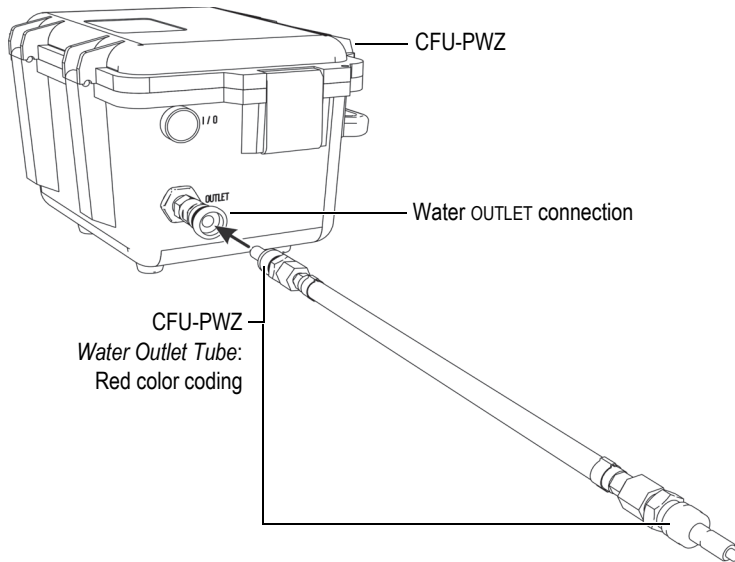

Figure 2-11 CFU-PWZ water OUTLET connection
3. Push one of the male connectors into the pump's female water OUTLET connection until the metal coupling snaps into place (see Figure 2-11 on page 36).